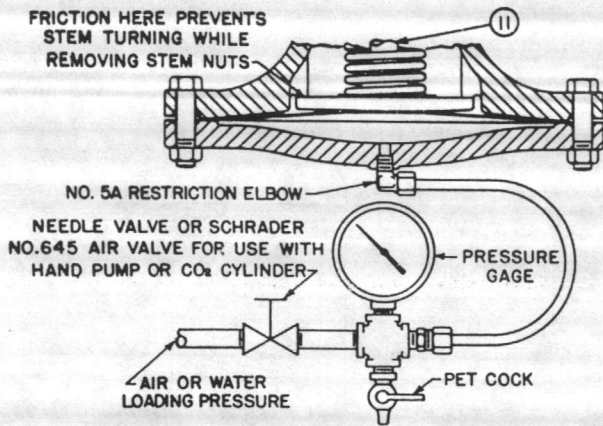

Fig. 6 — Air Loading Arrangement for Removing Stem Nuts
1. Connect a source of air or water pressure which can be adjusted by hand to the No. 5A restriction elbow. See Fig. 6.
2. Apply pressure to jack valve open and prevent stem (11) from turning while removing stem nuts (5 and 6). Usually 50 to 60 psi will suffice. Use paraffin, candle wax or penetrating oil on the threads.